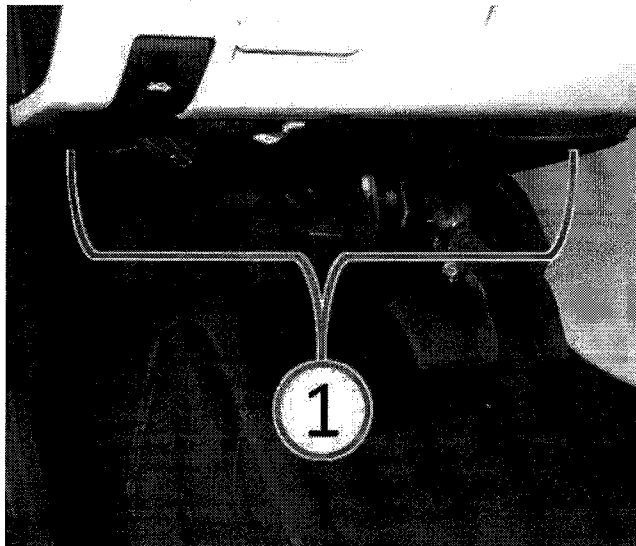

Fig. 7 Hood Release Cable Not Hanging Down
7. Ensure that the hood release cable is now secured and not hanging down too low under the instrument panel (Fig. 7).